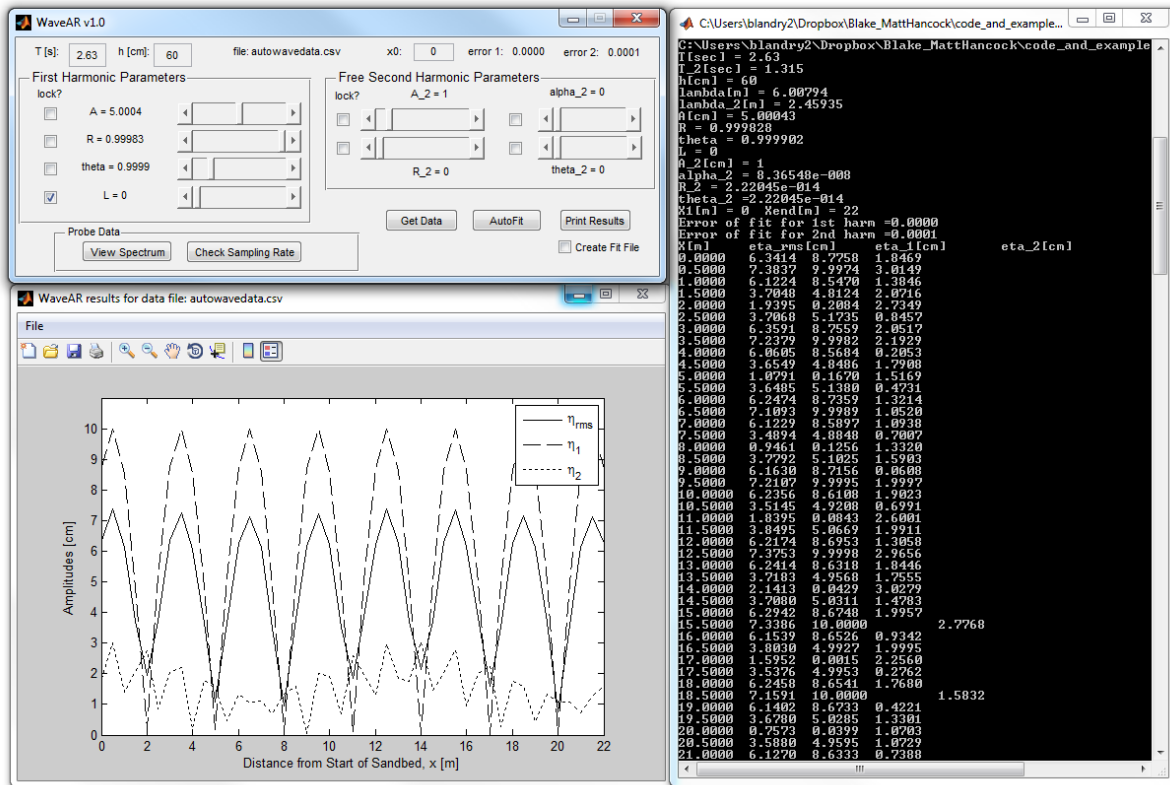
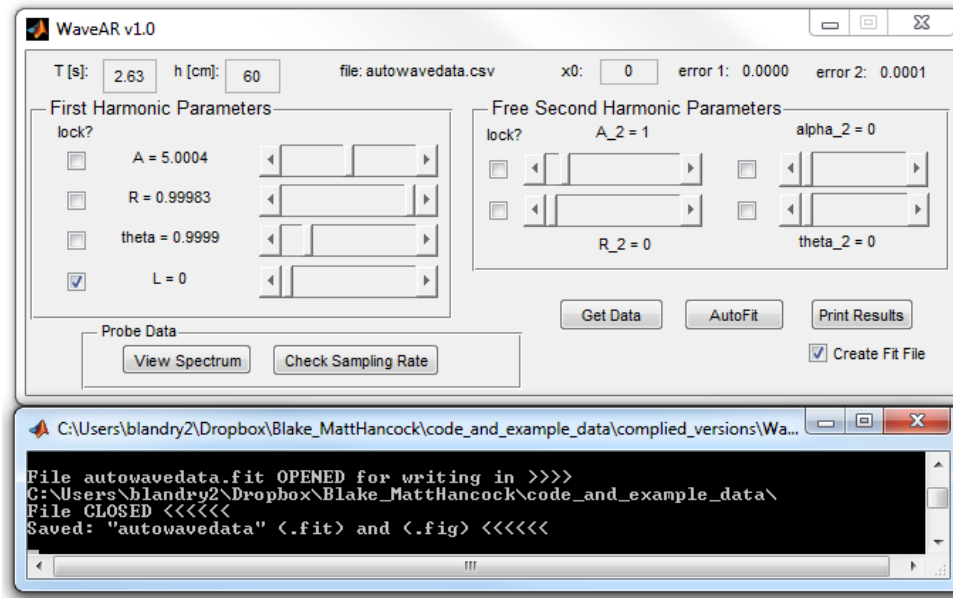

Figure 8. Results printed to console window.
Figure 9. Results printed to output data file. Full path to output file is displayed.
- 6) After a proper fit has been achieved, the user can print the fitting results to the console window (for immediate display) by pressing the “**Print results**” button (Figure 8) or to a user specified data file by checking the “**Create fit File**” prior to pressing the “**Print results**” button (Figure 9).